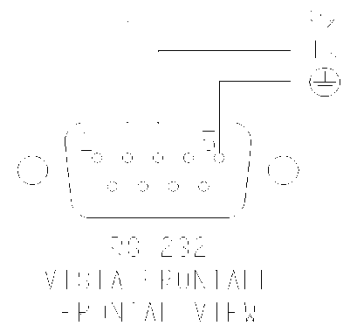

Fig.6
- Connect the terminals of the thermostat to the socket (19).
For PC control use the serial communication RS 232 (20) (references fig.6)